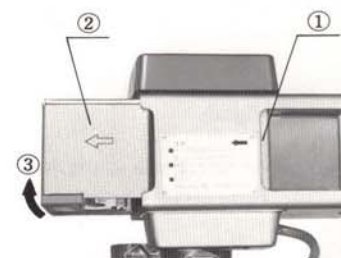

Fig. 4
- e) When one lamp is burned out, slowly insert the replacement lamp holder unit ① into the housing in the direction indicated by an arrow until it is correctly positioned in place of the burned-out lamp ②. At this instance the replacement lamp will light up. (Fig. 4)
- f) Remove the first lamp holder unit by lifting it in the arrow direction ③. (Fig. 4)